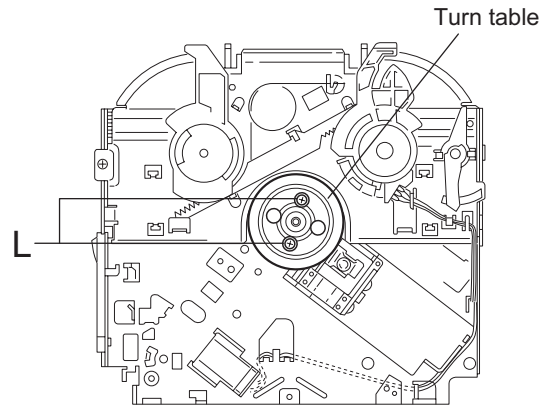

Fig.41
2.2.18 Removing the turn table / spindle motor (See Figs.41 and 42)